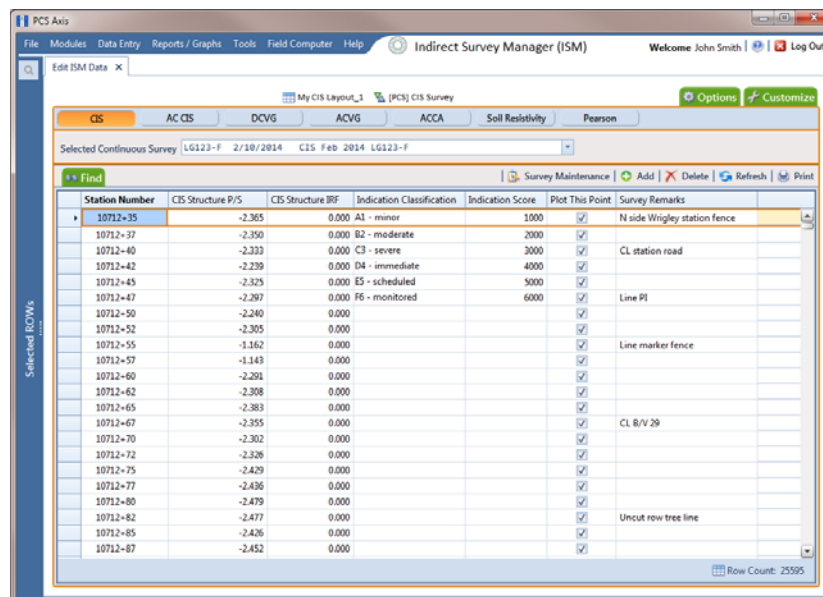

Figure 7-75. Edit ISM Data
- 3 Click **Data Entry > Edit ISM Data** to open the ISM data entry grid. Then click a button labeled with the type of continuous survey data you want to work with, such as the **CIS** button  (Figure 7-75).